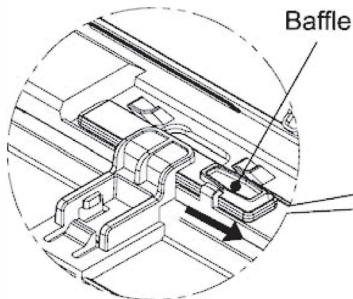

Fig. C.5.20
- 10) Pull the baffles as shown in Fig. C.5.20 Close the front shell as shown in Fig. C.5.21 . Then press the E position to fasten the front shell as shown in Fig. C.5.22